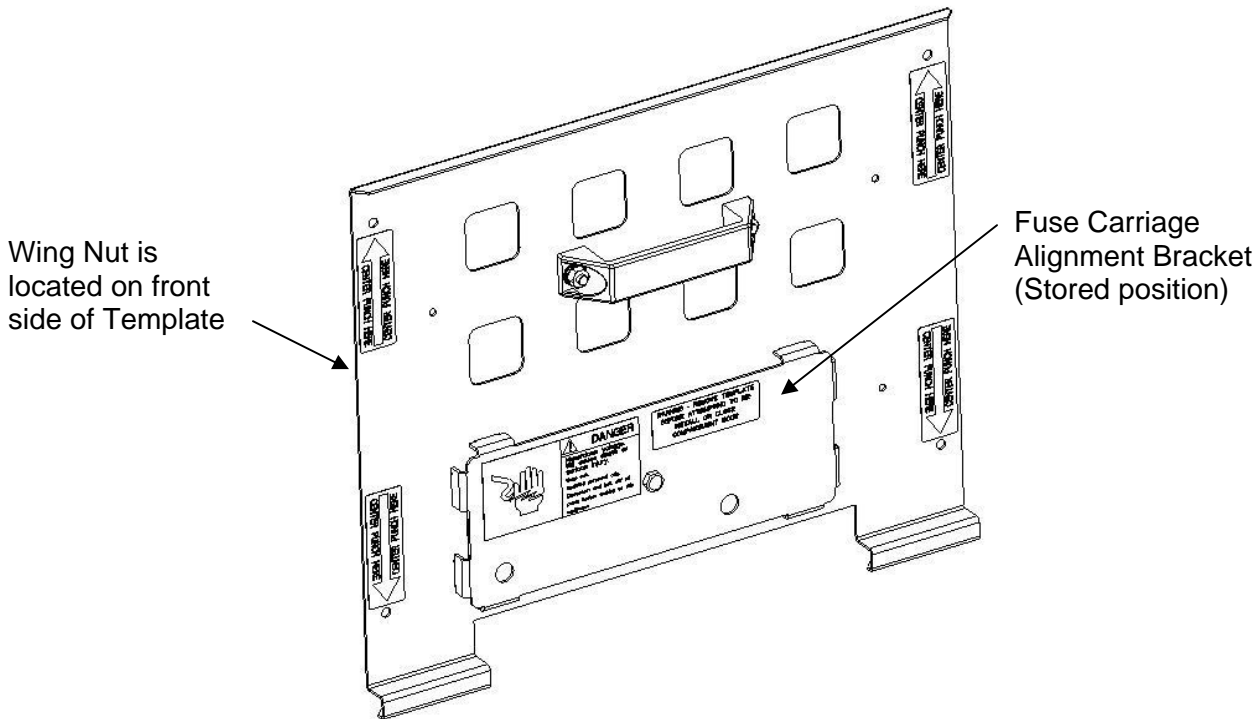

Fig. 3.1 Fuse Carriage Alignment Bracket (in the stored position)
1. Remove Fuse Carriage Alignment Bracket from rear of template by loosening wing nut. See Fig 3.1